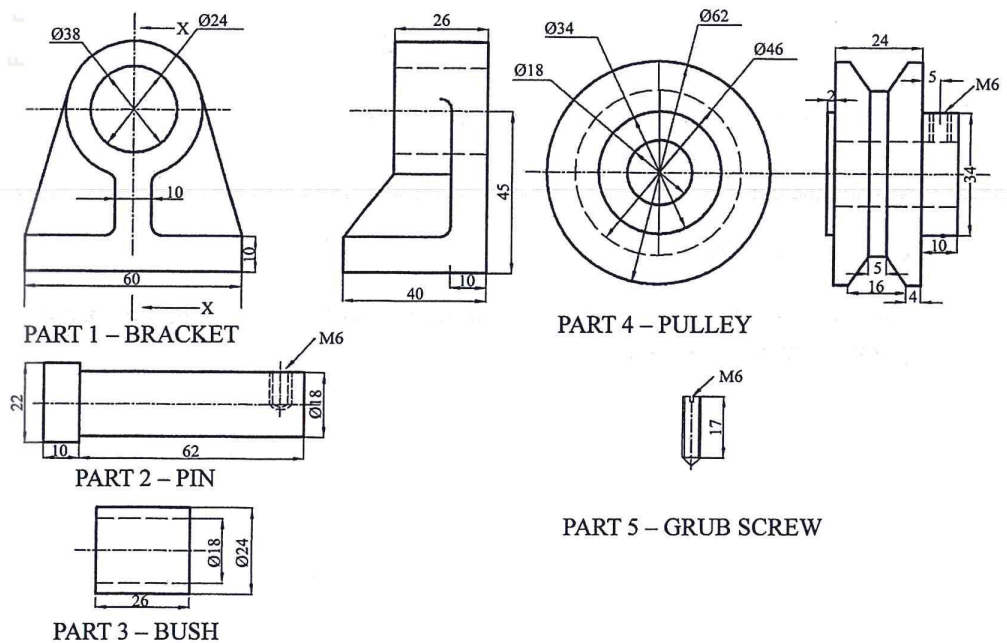

Figure 4
11. **Figure 4** shows parts of a pulley support bracket drawn in third angle projection.